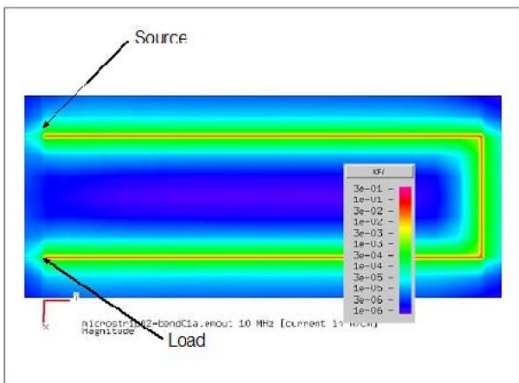
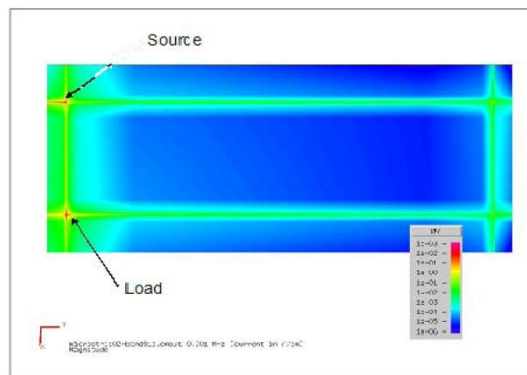

Figure 1: Return Current at 1 MHz
Figure 2: Return Current at 1 KHz
When designing an electronic system, it is important that it function as intended; this requires an understanding of many aspects of EMC including signal integrity (SI). One of the principal ways we can learn to understand SI is by knowing where our currents are flowing, as they move from one area on the circuit board to another and return. It is always easy to know where the intended signal flows, as it will be contained in the trace you place on a circuit board, but where does the return signal current flow? If you have a ground plane the signal is “expected” to flow under the signal trace, as mirror current, as shown in Figure 1. At higher frequency “most” of the return current will flow under the signal trace but at lower frequencies this is not necessarily the case. The unsuspecting designer might be surprised to learn the return current at lower frequencies might take a totally different path than expected. (See Figure 2)